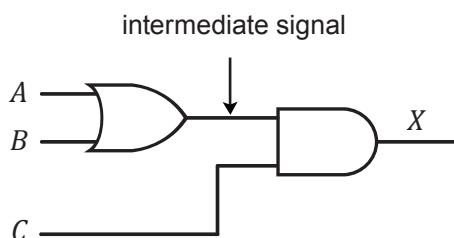

Figure 12.2 A combinational logic circuit
Figure 12.2 shows a combinational logic circuit consisting of an OR gate and an AND gate. The circuit has three inputs (A , B and C) and one output (X). The signal that passes from the OR gate to the AND gate is called an **intermediate signal** as it comes after the inputs but before the output.